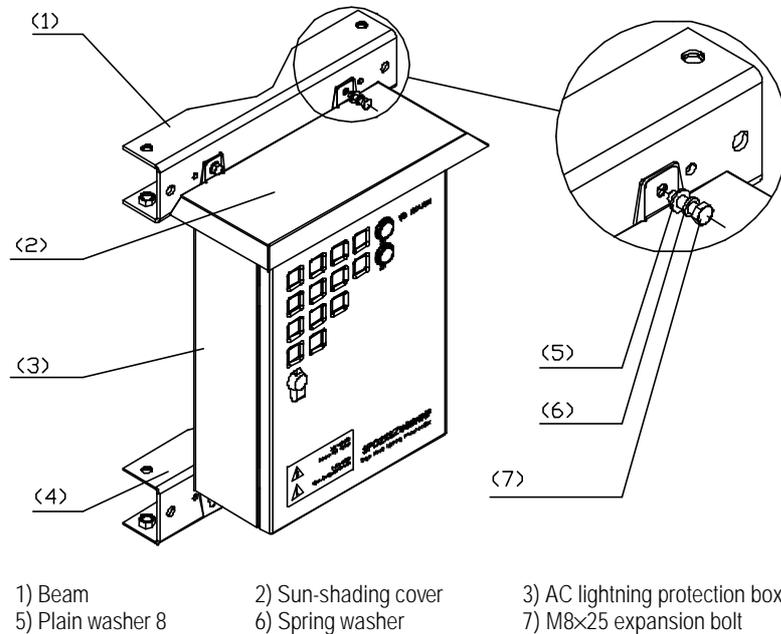

Figure 2-37 Fixing the box on beams
- 1) Fix the AC lightning protection box, sun-shading cover, and beam together with M8×25 expansion bolts, spring washers, and plain washers, as shown in Figure 2-37.
- 1) Fix the box, flashing board and the beam together with M8×25 bolts, spring washers, plain washers, as shown in Figure 2-37.